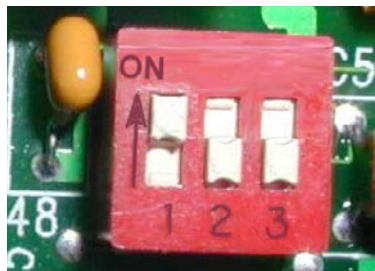

Figure 3-3
3. Locate switch SW-1 on the DuraDrive Control PCB. See Figure 3-3.